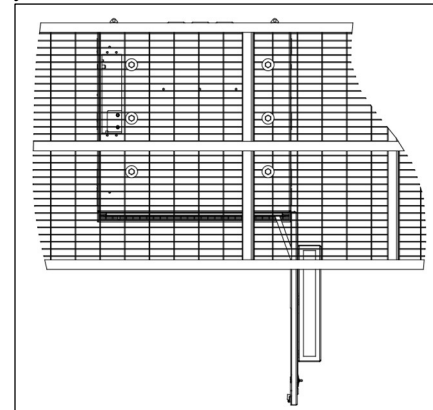

Figure 7 **Installing on a Platform**
5. To secure the CUBE to a steel grate platform, install 1/2" corrosion-resistant Grade 5 steel hardware through the cabinet and platform grate. Ensure that the bolts are long enough to extend past the nut on the bottom side of the platform grate. For all mounting applications, each bolted joint should have a minimum Ø1 inch fender washer on the inside of the cabinet (and underside of the platform grate for platform mounting) with a lock washer. The washer on the underside of the platform must be large enough to cover both adjacent bearing bars as shown in Figure 7.